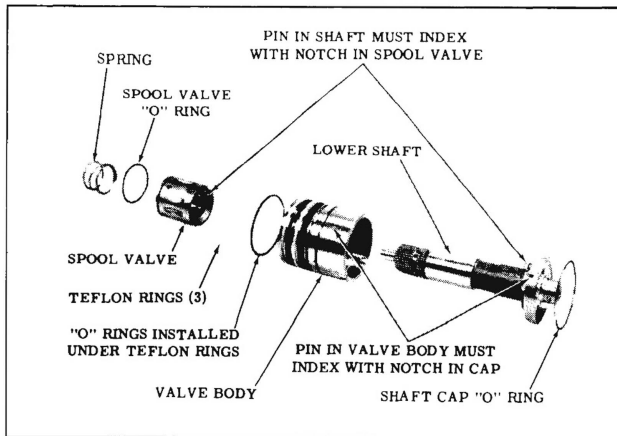

Fig. 4-264 Valve and Shaft Assembly
3. Assemble the lower shaft assembly in the valve body so the notch in the lower shaft cap engages with the pin in the valve body and is seated. (Fig. 4-264)
- b. Lubricate the spool valve with Hydra-Matic oil and slide the valve over the lower shaft. (Notch in spool towards the valve body). Rotate the spool valve while pushing valve into valve body to align notch in spool with the pin in the lower shaft. (Fig. 4-264)